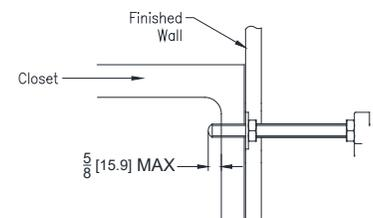

Figure 8a
9. Prep for finished wall. Fasten the (4) threaded rods from the finish bag into the faceplate, using the (4) jam nuts to tighten the studs down. Each rod extends 5/8 [16] past the closet bowl flange (see Figure 8a).